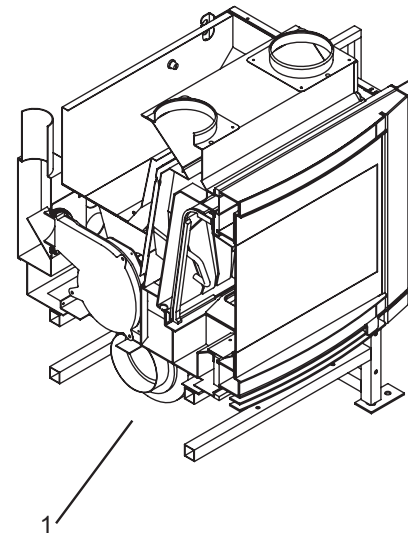

Fig. 6.3.2
The air fan (1) is located in the lower rear part of the stove (Fig. 6.3.2).